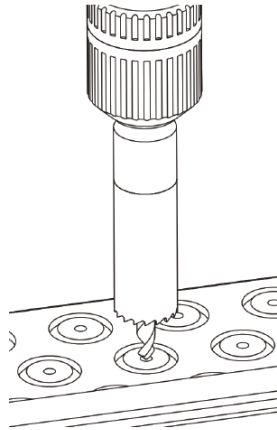

Figure 19. Cut cable entry holes
- If the panel is being wall mounted then cut out the required number of cable entry holes in the back using a 20mm hole saw with pilot drill bit as shown in Figure 19. Fit the glands to the back box and pull through the required cables.